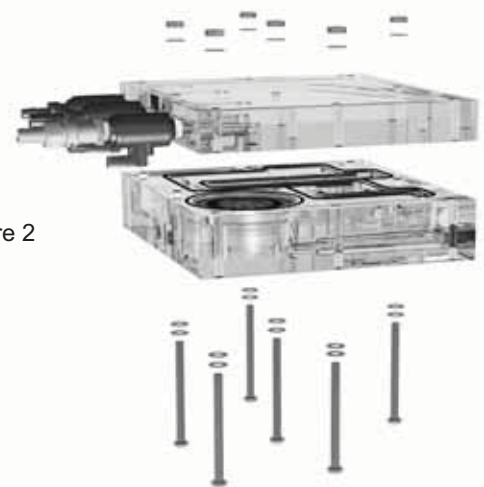

Figure 2
**Step 7.** Remove the remaining hardware from the flow cell. (Figure 2).